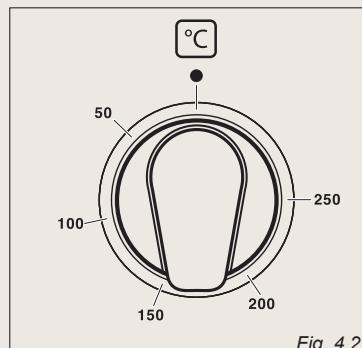

Fig. 4.2
**Thermostat knob (fig. 4.2)**